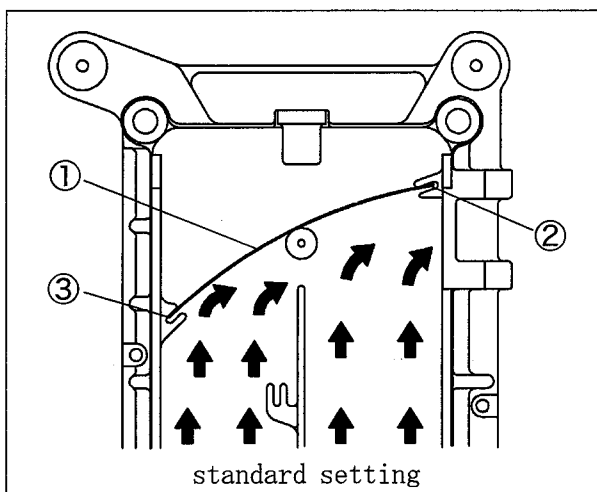

Fig. 2
To set the standard position, insert the air deflector ① into the guides ② and ③. (See Fig. 2)